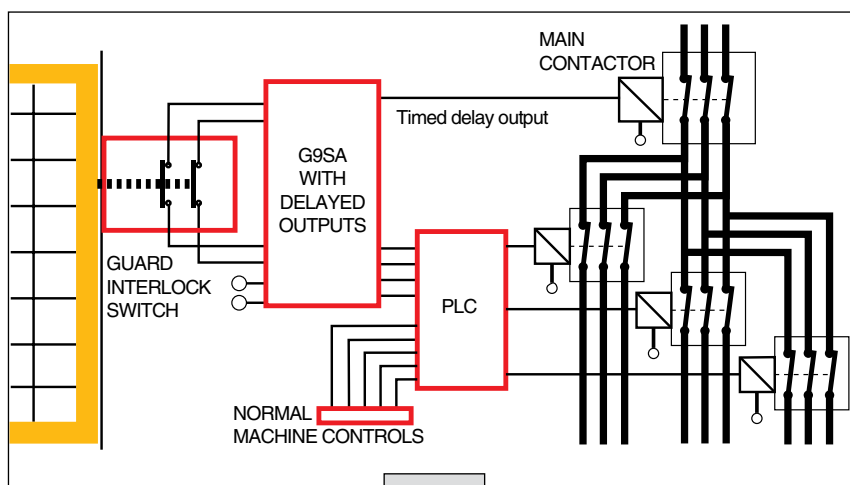

Fig. 2.14
2. Monitoring Unit with Time Delayed Override Command (see Figure 2.14)